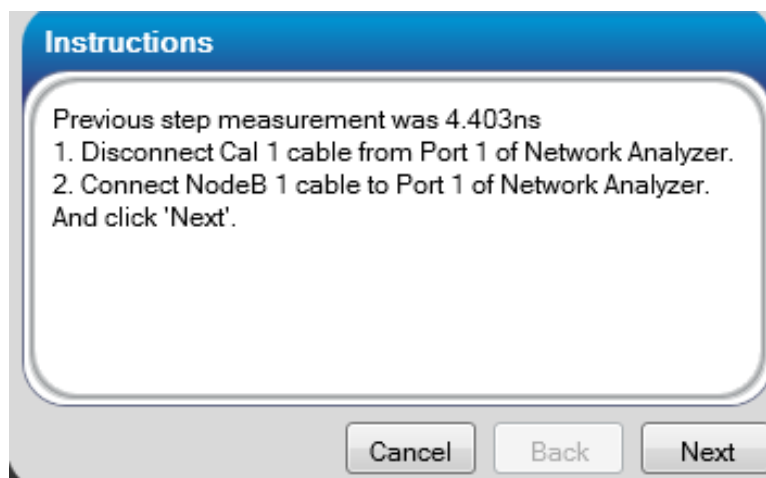

Figure 4-16: Connection Setup – Measurement Result
21. The results of the measurement in the previous step displays, as shown in Figure 4-16.
22. Perform the steps listed in Figure 4-16 and click **Next**.